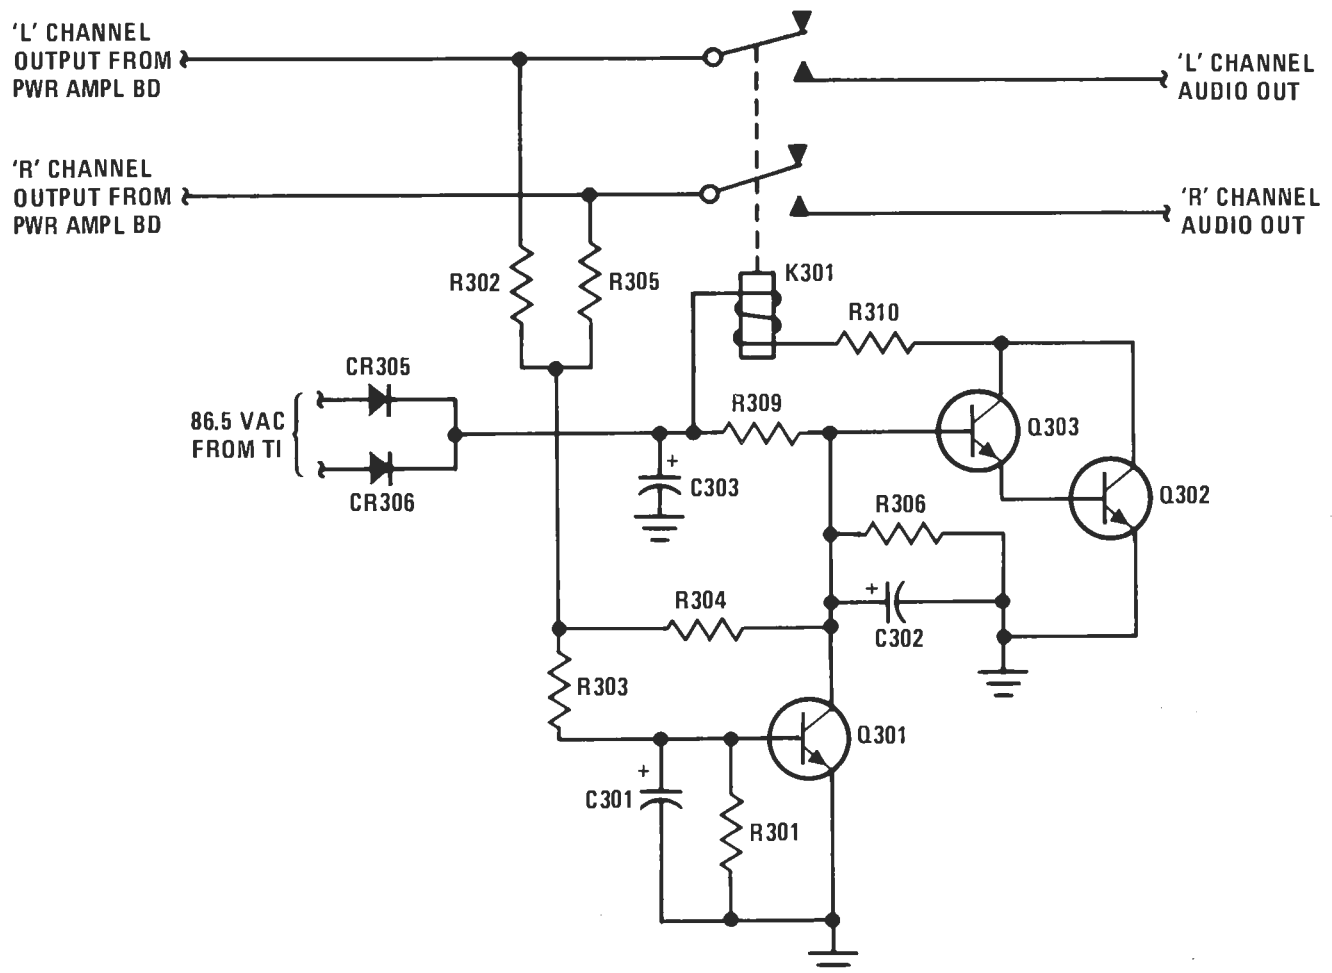

Figure 2. Relay Board Simplified Schematic
- Replace Figure 2. (Rectifier/Relay Board Simplified Schematic) with Figure 2. (Relay Board Simplified Schematic) contained herein.
The output of the power amplifier circuit is applied to the wipers of relay K301 of the relay board circuit, Figure 2. The relay energizes after a minimum delay of two seconds after AC power is applied to the unit. The duration of the delay is a factor of the time constant of R306, R309, and C302. This delay at turn-on is to prevent any transient surges from reaching the output terminals. Additionally, resistors R302 and R305 sample the audio output signals. Should a constant DC level greater than +4.5V, or a high amplitude signal below 10Hz be present, Q301 will turn on, shorting the base of Q303 to ground. C302 begins to discharge and K301 de-energizes. Should a constant DC level more negative than -4.5V be present, the voltage drop across R304 bucks the voltage present at the base of Q303 and K301 de-energizes. When the relay is energized, the audio output is applied to the speaker terminals.